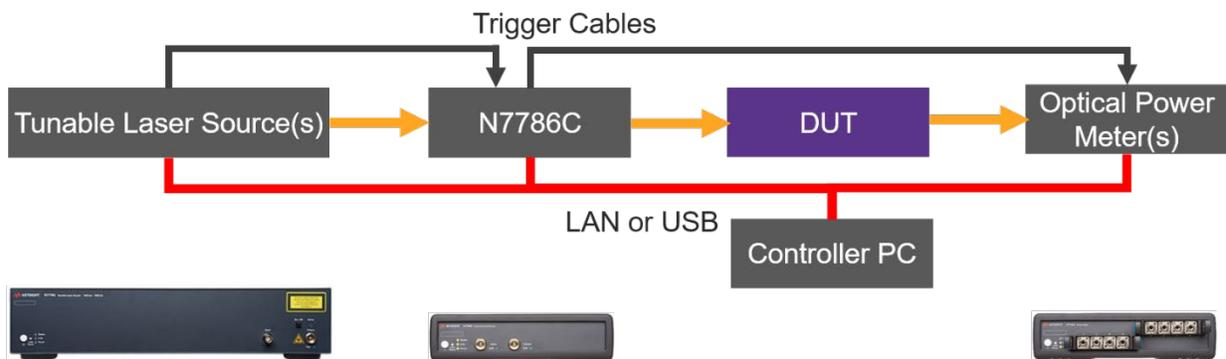

Figure 1. Schematic setup for measuring wavelength and polarization dependence of an optical multiplexer device, IL and PDL.
The spectral response of components used in WDM links is a key factor in determining link performance at the physical level. The insertion loss (IL) of passive components influence the signal power budget. The wavelength selectivity of filters used for multiplexing and especially demultiplexing, characterized from traces of IL vs. wavelength with parameters like ripple or flatness in the passband and isolation of wavelength outside the passband, is important for signal stability and avoiding crosstalk. Reflections, parametrized as return loss (RL), can also degrade link performance and should be controlled. Low dependence of these response parameters on the polarization of the optical signal is also needed to avoid fluctuations in power, because the polarization state can change randomly along fiber links. So passive WDM components are typically tested and verified by measuring IL, PDL and often RL across the applicable wavelength range. Using a tunable laser source at the common side of an LR4 multiplexer, for example, allows all four lane ports to be measured simultaneously with synchronized power meters. A block diagram for such measurements is shown in Figure 1, implemented using the N7700 Lambda Scan (LS) application software package. For adding RL measurements, a return loss unit like the 81610A can also be included between the N7786C and the DUT. Details for the instrumentation are given farther below. Further details for the LS software are available at www.keysight.com/find/n7700.